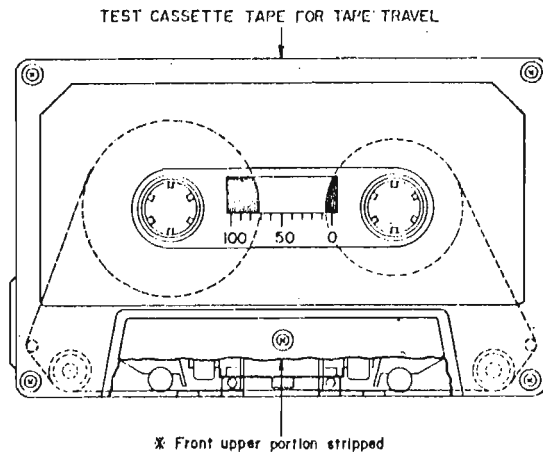
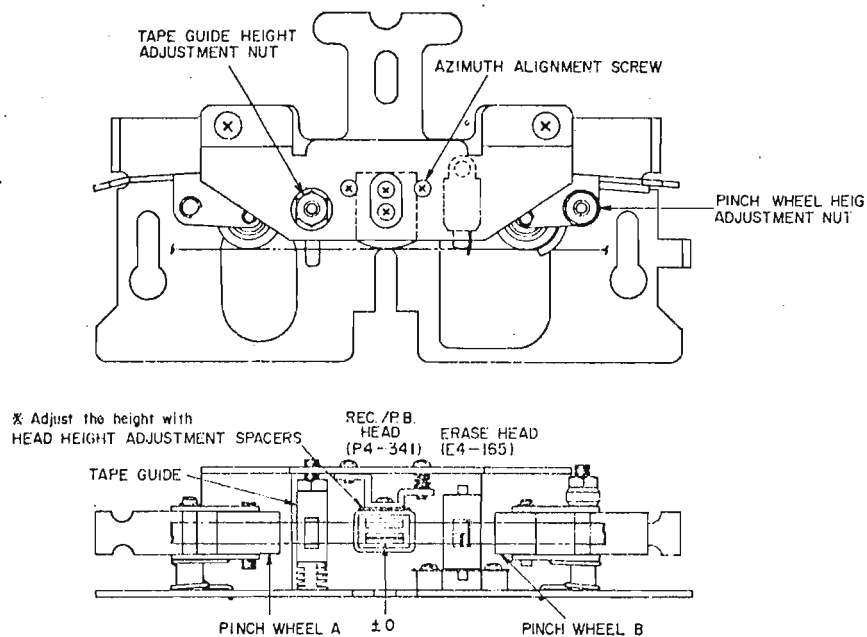

Fig. 7
Fig. 8
(Refer to Figs. 7 and 8)
As shown in Fig. 7, use a cassette tape from which the upper part of the cassette case has been stripped off for easy visibility of the head area and, using the erase head as standard for height, adjust tape guide height adjustment nut and pinch wheel B height adjustment nut for proper tape guide and pinch wheel B height and so that the tape runs smoothly and does not twist at the tape guide part of Pinch wheel B. (Fig. 8)
2. RECORDING/PLAYBACK HEAD HEIGHT ADJUSTMENT (Refer to Fig. 8)
3. RECORDING/PLAYBACK HEAD AZIMUTH ADJUSTMENT (Refer to Fig. 8)